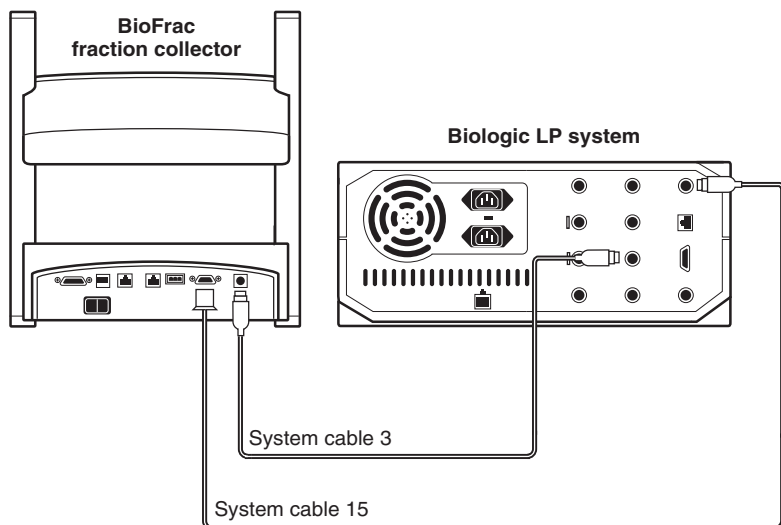

Fig. 3.
1. Connect the fraction collector to the BioLogic LP system using system cable 15 as shown in Figure 3.
2. Connect the fraction collector to the BioLogic LP system using system cable 3 as shown in Figure 3. **Note:** Both ends of cable 3 are identical.